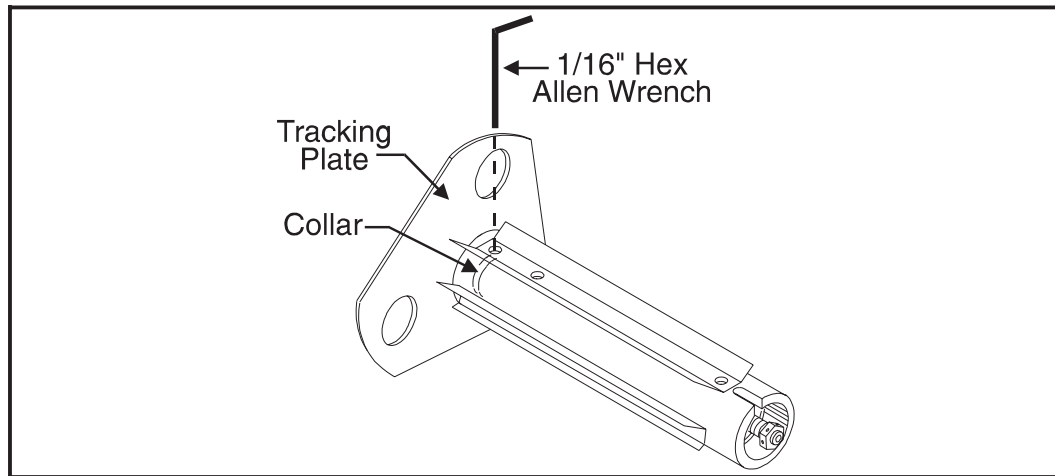

Figure 5.11 105S/105Se Rewind Spindle Positioning
3. **(105S and 105Se Only)** If the media cannot be made to track correctly with the previous adjustment, check the distance from the outside of the Tracking Plate to the Main Frame. This dimension is set at the factory and should be 0.530" (13.5 mm) to 0.570" (14.5 mm). If the distance needs to be reset, refer to Figure 5.11 and proceed to step 4 below.
4. **(105S and 105Se Only)** Use a 1/16" Hex Allen Wrench to loosen the two set screws in the Collar (located inside the Rewind Spindle Assembly). The screws are accessible through a single hole in the Spindle Assembly, as shown in Figure 5.11. Reposition the Spindle Assembly closer to or farther from the Main Frame as required, and retighten the two set screws in the collar.
If the Spindle Shaft turns when attempting to tighten or loosen the Adjustment Nut, refer to Figure 5.11 and insert a 1/16" Allen wrench through the access hole and into the set screw in the shaft collar (**105S/105Se ONLY**) or into one of the slots in the plastic clutch (**160S ONLY**). Hold the shaft in place with the Allen wrench while turning the Hex nut.